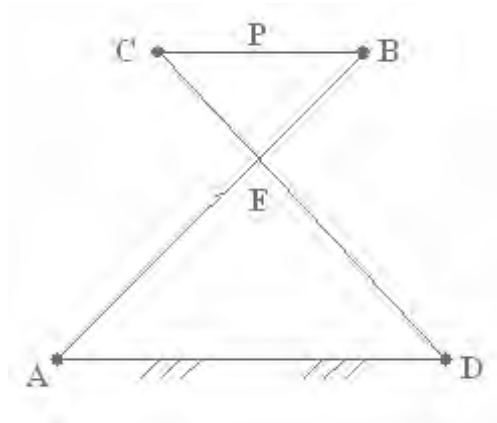

Figure 5
5. Show that for Tchebicheff's straight-line motion shown in figure 5. the point P that bisects the link BC will lie in a straight line parallel to AD. When it is directly above the midpoint of AD, if the proportions of the links are BC: AD: AB = 1:2:2.5. [16]